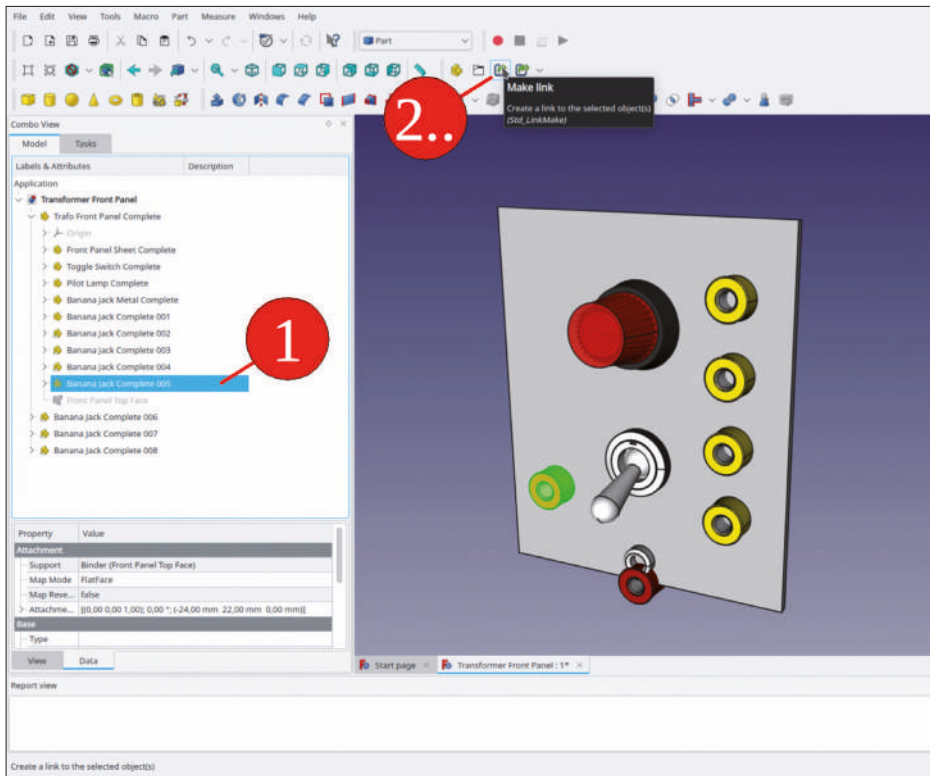

Figure 9-22
13. Repeat the creation of 3 link objects but click 'Banana Jack Complete 005' as the parent object (Figure 9-22). Drag-and-drop the linked jacks into 'Trafo Front Panel Complete'.